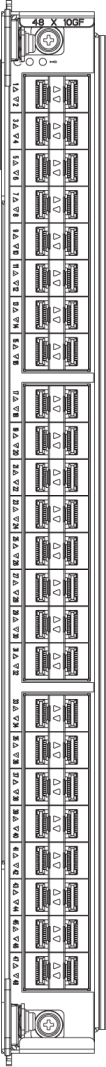

FIGURE 4 48x10G line card (48x1G line card similar)
- 48x1G and 48x10G line card modules – Ports are numbered from 1 through 48, from top to bottom, with the odd-numbered ports on the right row and the even-numbered ports on the left row when installed in the switch. Refer to Figure 4.